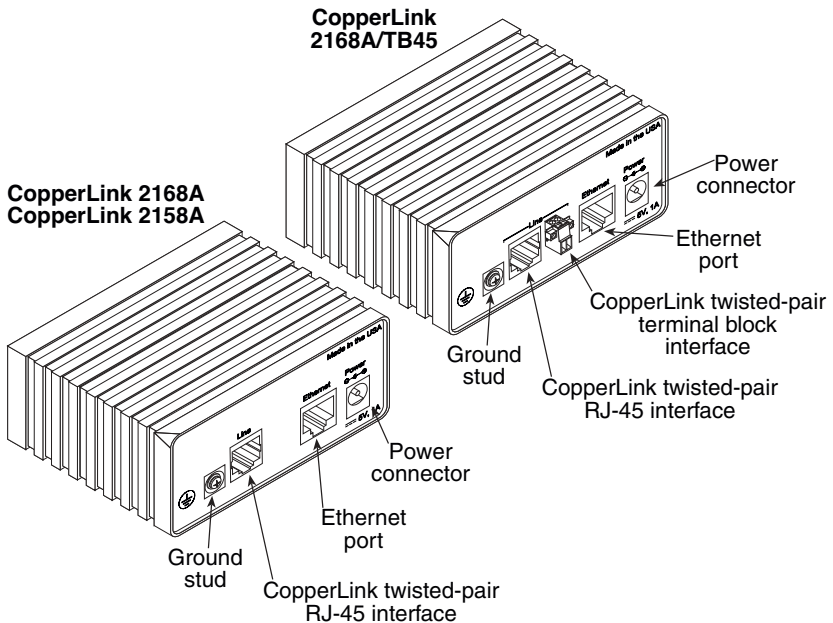

Figure 2. CopperLink Ethernet Extender rear panel
Note See Figure 2 for the unit's rear panel arrangements.
2. Install the grounding wire between the grounding stud (see Figure 2 on page 9) and the grounding source.
3. Close the clamp and connect the cable to the line port on the unit (See Figure 2 on page 9).